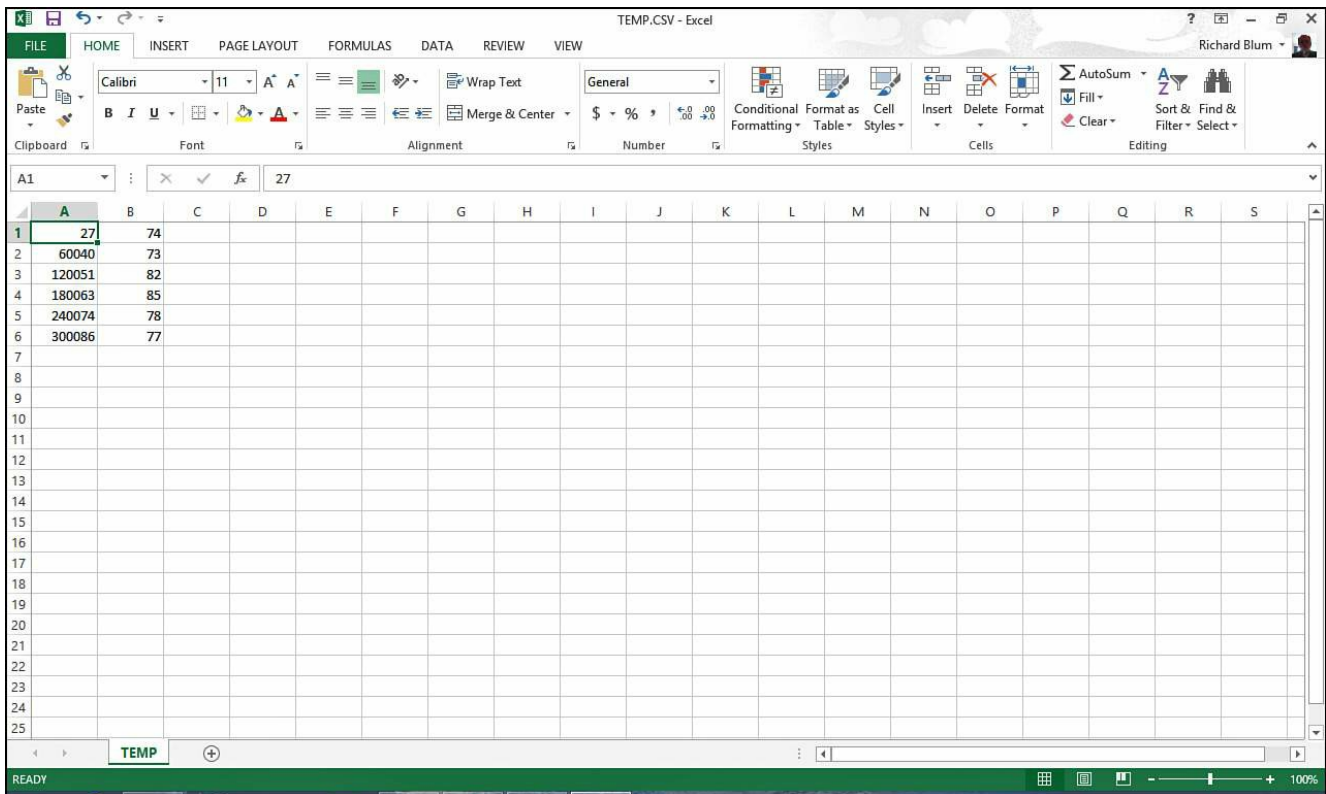

FIGURE 23.3 Viewing the temp.csv log file using Excel.
8. Open the temp.csv file using either a text editor, or if available, a spreadsheet application such as Excel or LibreOffice Calc. Figure 23.3